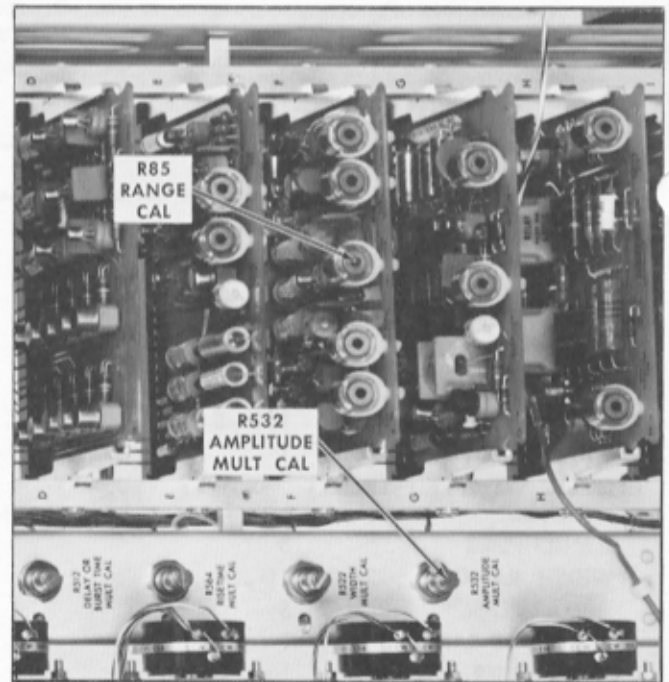

Fig. 7-13. Location of + amplitude calibration adjustments on the Pulse Shape Generator (Series F) card and the Type R116 chassis.
- f. Adjust—R85 (RANGE CAL) on the Pulse Shape Generator circuit card (Series F) if the pulse amplitude is not correct. See Fig. 7-13 for the location of R85.
l. Adjust — R532 (AMPLITUDE MULT CAL) on the Type R116 chassis (see Fig. 7-13) if the display is not correct.